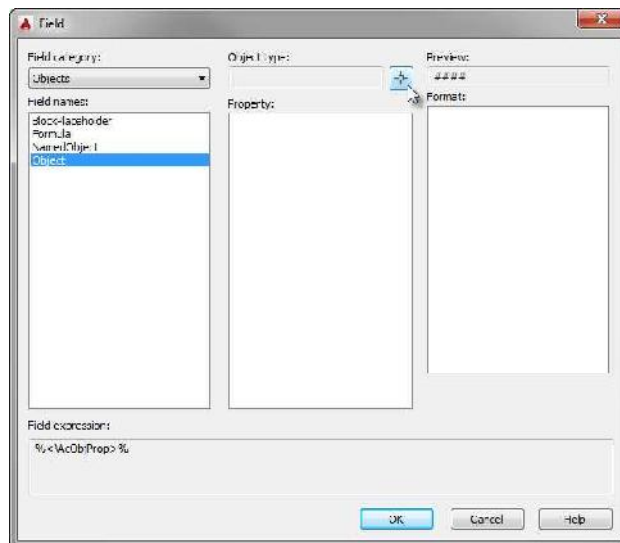

FIGURE 9.26: Choose Object from the Field Names list, and click the Select Object button in the Field dialog box.
8. The Field dialog box opens. In the Field Names column, choose Object and click the Select Object button (see Figure 9.26).